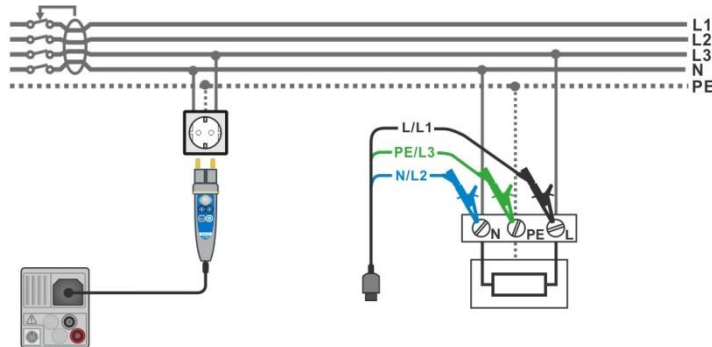

Figure 7.97: AUTO TN (RCD) measurement
- › Connect test leads or Plug commander to the object under test, see **Figure 7.97**.